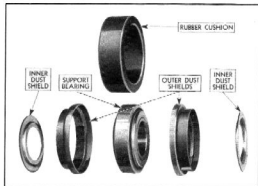

Fig. 35—Layout of Intermediate Support Bearing Parts
12. Tap the dust shields off the outer race of the bearing. Fig. 35 shows a layout of the parts making up the intermediate support bearing assembly.
2. Place one of the inner dust shields on the shaft with the offset in the shield away from the bearing as shown in Fig. 35. Drive the bearing on the shaft using the universal joint yoke as a driver. Then install the other inner dust shield on the shaft with the offset away from the bearing.